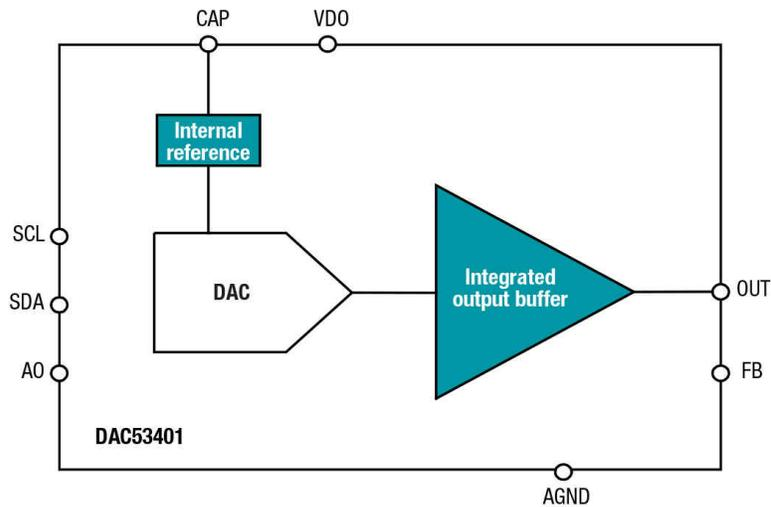

Figure 2. Integrated Reference and Buffer in DAC53401
- **Fewer external components** As shown in Figure 2, DAC53401 integrates an output buffer as well as an internal reference, saving PCB area and cost.